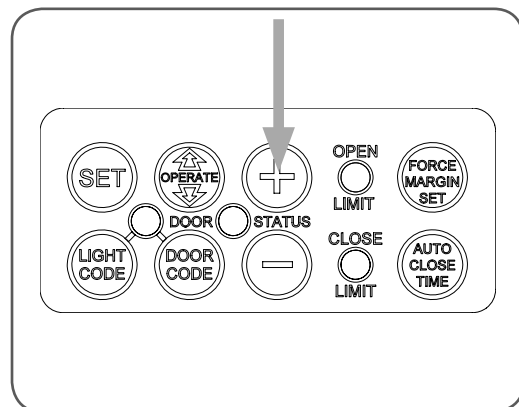

fig 25
- Press and hold the PLUS (+) button to open the door (**Fig. 25**).